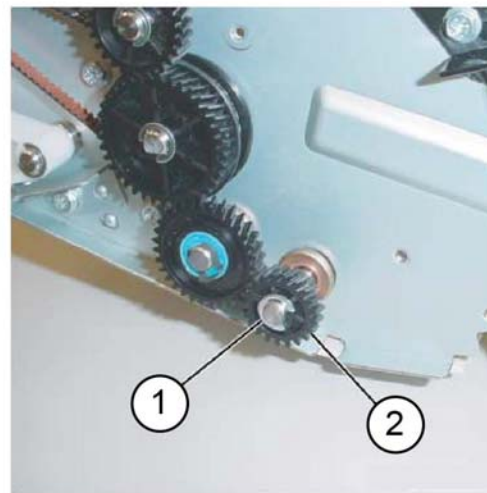

Figure 3 Rear gear removal
5. Remove the rear gear, Figure 3.
- a. Remove the E-clip (1).
- b. Remove the rear gear (2).